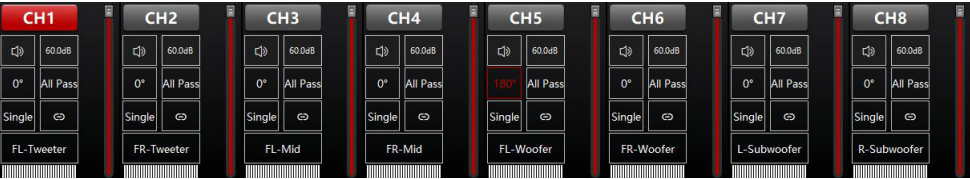

Figure 3.3.3
4. RS-DSP6.100 processor output signal path can be any type of on figuration freedom to any sound field point and the speaker type. The system defaults to 4.1 full-range passive mode. Figure 3.3.3 as follows ;